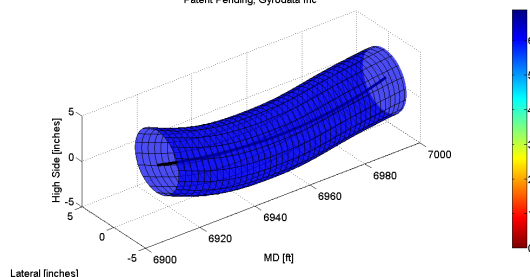

Fig. 1—The original ESP placement as determined by the operator.
- The analysis showed that the operator's originally planned ESP set depth of 6,958 ft was in a location where tortuosity and sideloading force would not be of concern (**Fig. 1**), though based on completion design, this depth would not achieve the highest possible production level.